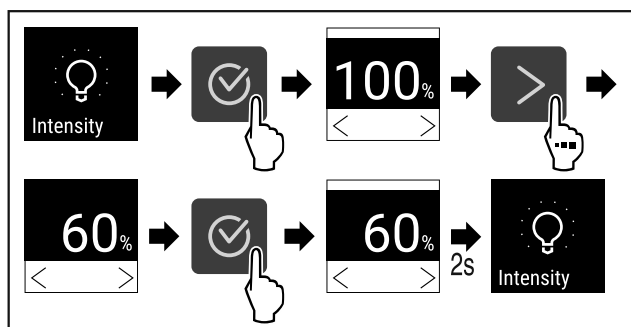

Fig. 71
- ▶ Carry out steps (see Fig. 71).